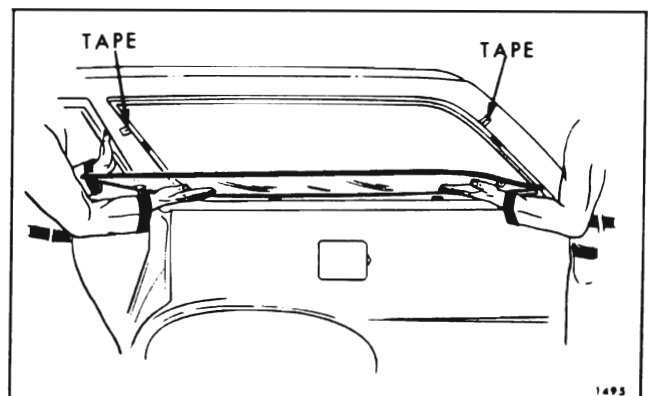
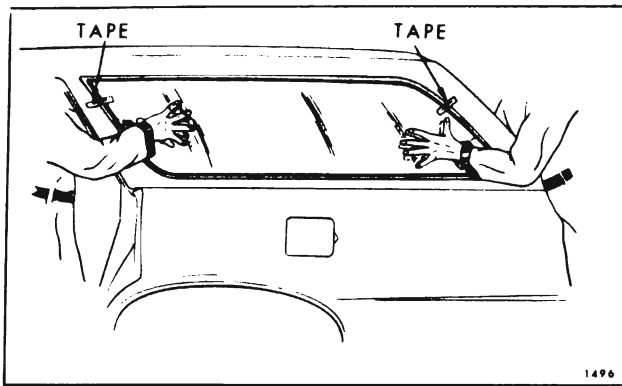

Fig. 4-21—Stationary Quarter Window Installation
Fig. 4-22—Stationary Quarter Window Installation
- Position glass in opening by making contact along upper edge first and then swing in lower edge (see Fig. 4-21 and 4-22).
- After final adjustments have been made and glass is in proper position, apply a piece of masking tape horizontally over front and rear edges of glass and body pillars (Fig. 4-22), so that tape on glass can be aligned with tape on body and act as a guide when glass is installed.
14. Install glass (see Fig. 4-21 and Fig. 4-22). Make certain that glass sets properly on spacers and does not have to be shifted after material contacts pinchweld flange. Align tape on glass with tape on body to guide window into opening.